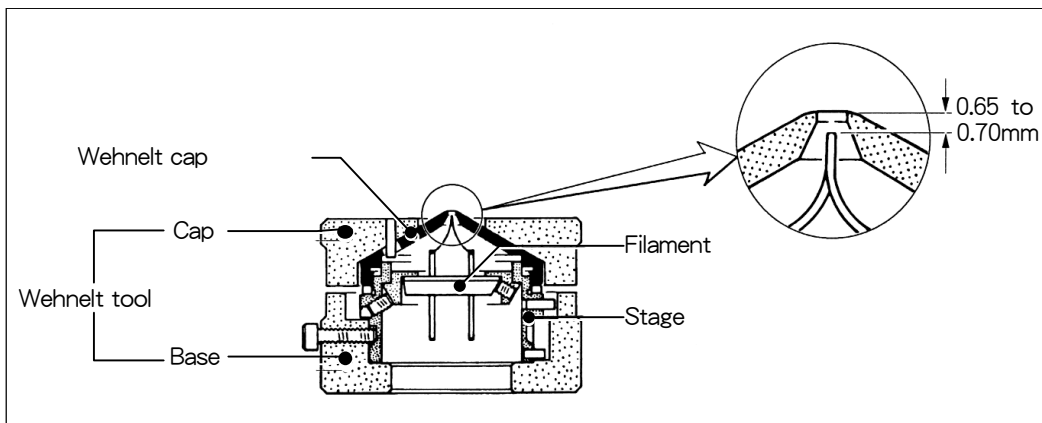

Fig. 6.10 Adjusting the Wehnelt cap
-  If you have difficulty in taking the cap off, use the Wehnelt tool (Fig. 6.10).
1. Place the Wehnelt on the base of the Wehnelt tool as shown in Fig. 6.10, and put the cap of the tool over the Wehnelt so that the pin inside the cap of the tool meets the hole of the Wehnelt cap.
2. Follow the steps below to adjust the height of the Wehnelt (Fig. 6.10).